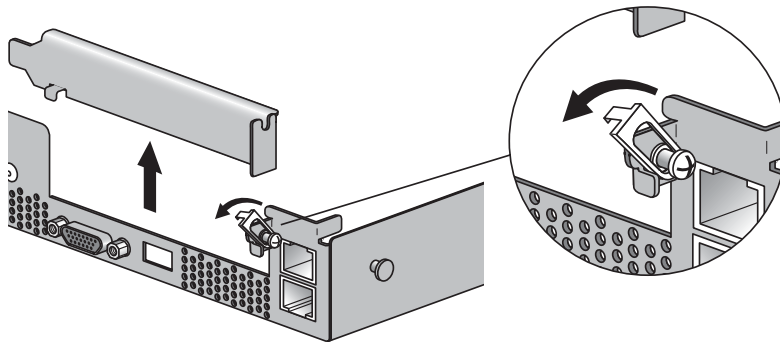

FIGURE 5-7 Removing or Installing a Horizontal PCI Card
3. On the outside of the server back panel, loosen the screw holding the card latch (see FIGURE 5-7).